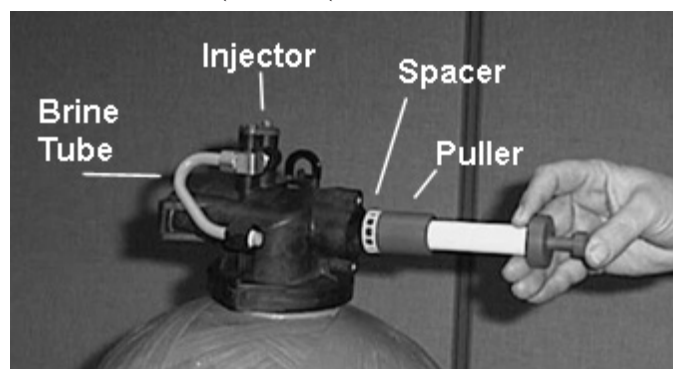

FIGURE 8
7. Remove the cap screw (N) from the back plate (N) and remove the back plate (N) from the valve (N). (See Figure 8.)
8. Insert the puller (N) into the back plate (N) and pull the back plate (N) away from the valve (N). (See Figure 8.)
9. All components are now removed from the valve (N). (See Figure 8.)
10. Insert the puller (N) into the back plate (N) and pull the back plate (N) away from the valve (N). (See Figure 8.)
12. **Problem:** The brine tube is not properly seated in the injector. **Reason:** The brine tube is not properly seated in the injector. **Correction:** The brine tube is not properly seated in the injector. (See Figure 8). **PL**